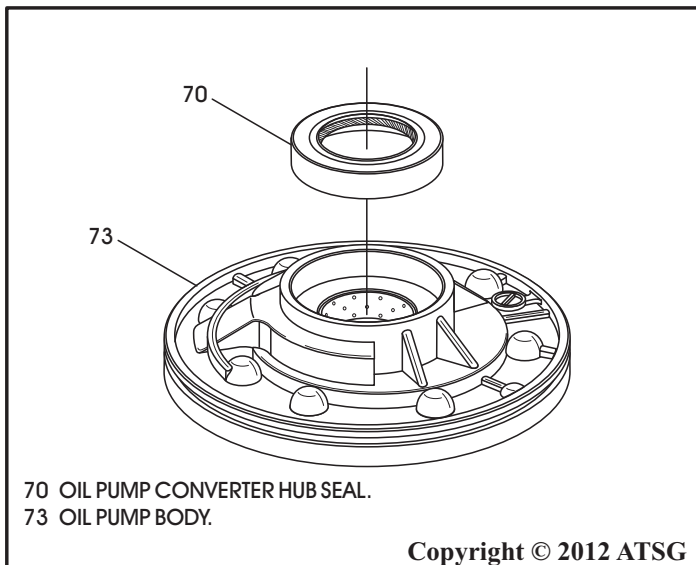

Figure 200
6. Turn oil pump over and install new converter seal, as shown in Figure 200, using the proper seal installer.